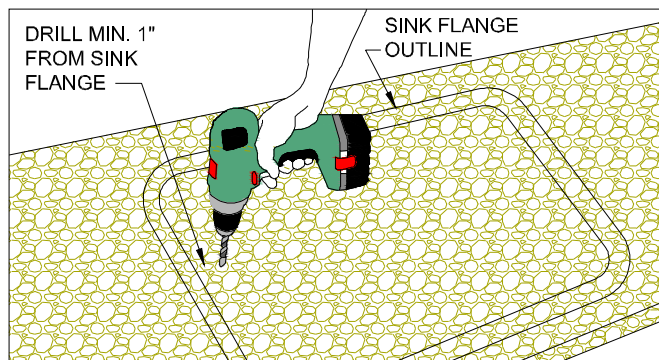

Figure 17A
- Drill a  $\frac{1}{2}$ " or larger pilot hole approximately 1" from inside edge of sink flange. (FIG. 17A)